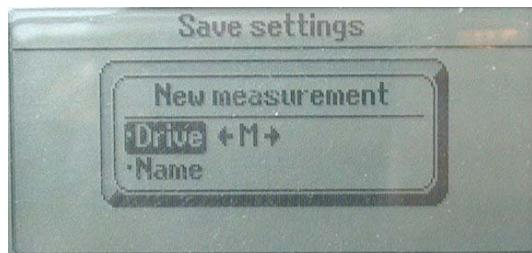

Fig. 21. File menu display, Drive
- c. Select "New pulse" or "New HCP" and press *Enter*. Fig. 21.